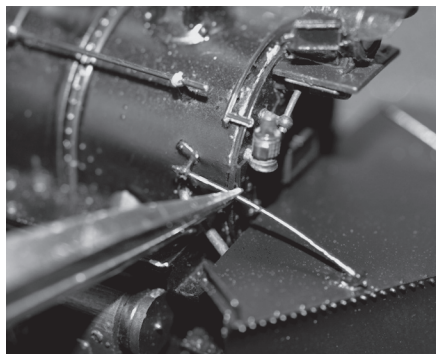

Figure 23 - Remove the snowplow support rods from the smokebox
1. Remove the locomotive from the packaging and set it on a secure work surface. A foam pad is recommended to protect against breaking the locomotive's detail parts. With the tweezers, gently pull both snowplow support rods from each side of the smokebox (shown in Figure 23).